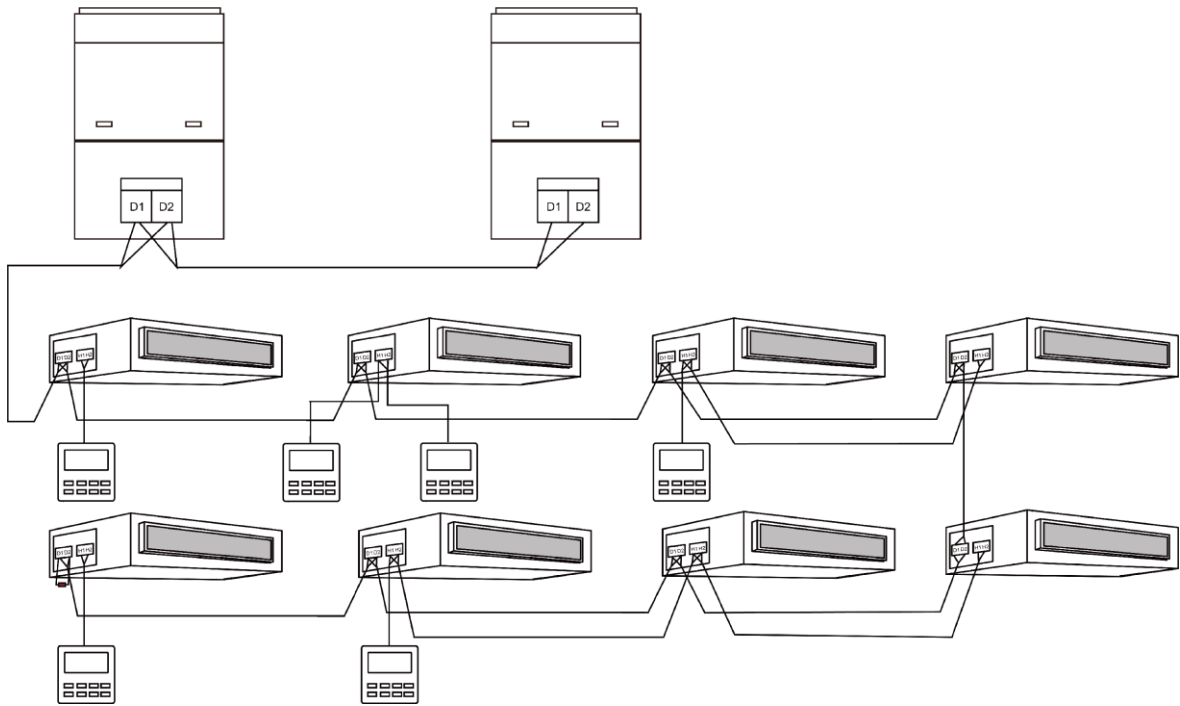

Fig 5.5
- (1) Communication wire of indoor unit and outdoor unit (or indoor unit) is connected to D1, D2.
- (2) Wired controller is connected to H1, H2.
- (3) One indoor unit can connect two wired controllers that must be set as master one and slave one.
- (4) One wired controller can control 16 indoor units in maximum at the same time. (as shown in fig 5.5)